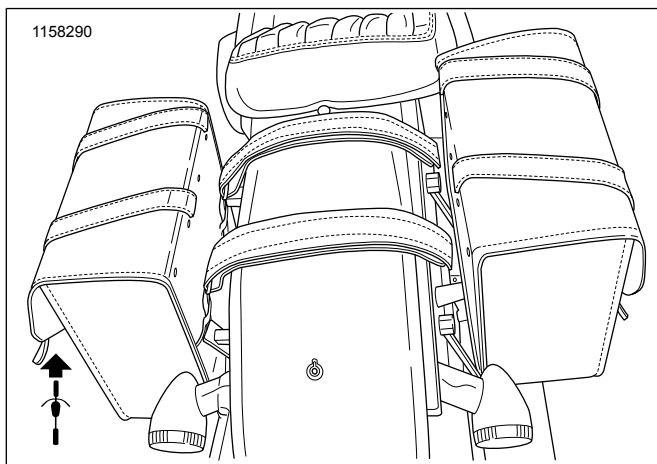

Figure 3. Support Yoke Placement
10. See Figure 3. Lay support yokes, already attached to right side saddlebag, across fender on anti-abrasion tape and attach to left side saddlebag.